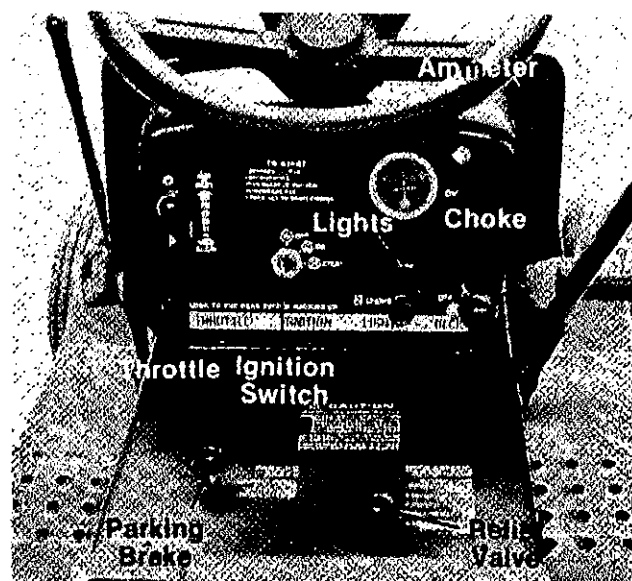

FIGURE 9.
The ignition switch is located in the center of the dashboard. Turn the key to the START position to start the engine. When the engine is running leave the key in the ON position. To stop the engine turn the key to the OFF position. (See figure 9.)
The throttle control is located on the left side of the dashboard and is used to regulate the engine speed. (See figure 9.) The engine should be operated from ¾ to full throttle (FAST) when operating any equipment that uses the tractor engine as a source of power such as the mowing deck, snow thrower or rotary tiller. (See figure 9.)
The choke control is located on the right side of the dashboard and is operated manually. Details for the choke operation are covered in the Engine Operating and Maintenance Instructions Manual. (See figure 9.)
The head lamps are operated by pushing the light switch located on the dashboard. The head lamps will only operate when the engine is running. (See figure 9.)
The maximum charging rate is 3 amps. The head lamps operate directly from the engine alternator and do not register on the ammeter. (See figure 9.)
To set the parking brake, depress the clutch-brake pedal and pull up the parking brake knob. It will stay in the raised position. To release the parking brake, depress and release the clutch-brake pedal. (See figures 9 and 12.)
To move the riding mower without the engine running, pull up the relief valve and lock it in the raised position. This allows the rear wheels to roll. (See figure 9.)
1. Unscrew the parking brake and relief valve knobs. (See figure 9.)